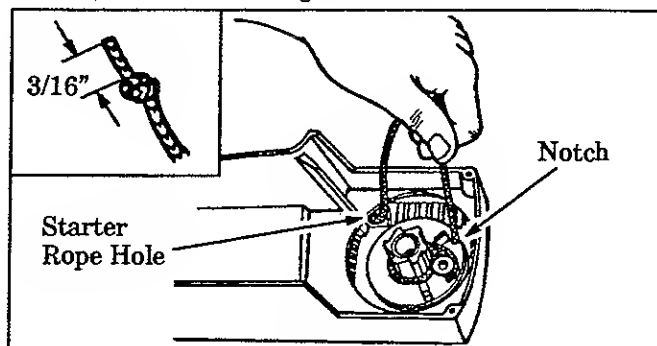

Figure 35
3. If the starter rope is not broken, release the spring tension by pulling out (inside the pulley housing) about 10 inches of rope from the pulley and catch the rope in the notch. Figure 35.
9. Feed the rope through the hole in the starter rope handle. Secure the rope with a knot, leaving about a 3/16" pigtail. Figure 35.
10. Feed the rope through the round starter rope hole in the pulley housing. Figure 35.
14. Pull out (inside the pulley housing) 10 inches of rope and catch the rope in the notch in the pulley. Figure 35.